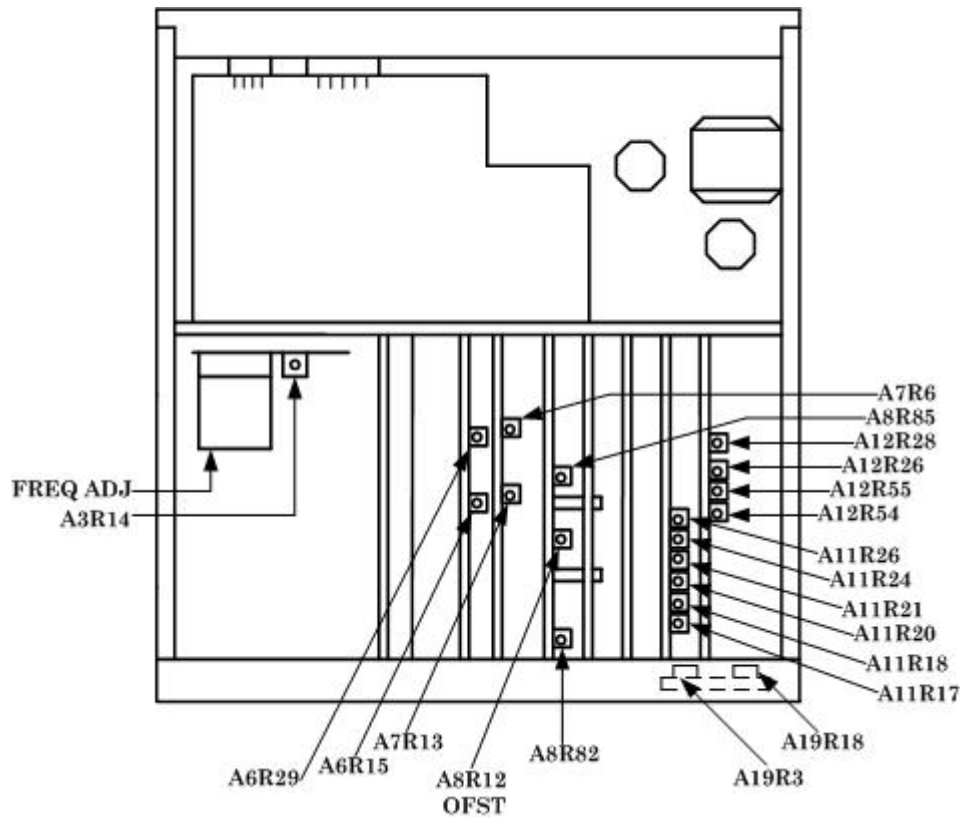

Figure 1. Test instrument - top view.
(1) Connect time/frequency workstation **OUTPUT 1 MHz** to frequency difference meter **REF INPUT**.
(2) Connect TI rear panel **FREQ STD OUTPUT (10MHz OUT** for AN/USM-459 and 5328AF096) to frequency difference meter **SIG INPUT** using a 50 Ω feedthrough termination.
(3) Adjust **FREQ ADJ** (fig. 1) (**FREQ ADJ** (fig. 1) and **A3R14** (fig. 1) for AN/USM-459 and 5328AF096) for minimum difference indication on frequency difference meter. Record frequency difference meter indication.
(4) After 24 hour stabilization, frequency difference meter indication will be <5 parts in 10¹⁰ of indication recorded in (3) above. Record frequency difference meter indication.
- (1) Connect signal generator **OUTPUT RF** to **TI INPUT A** using 50 Ω feedthrough termination (omit termination for option H60).
- (2) Set signal generator for a 40 MHz, 25 mV output.
- (3) Adjust A19R3 (fig. 1) (A12R26 (fig. 1) for option 041) for a stable TI indication of approximately 40 MHz (R).
- (4) Slowly decrease signal generator output and repeat (3) above.
- (5) Connect TI **CHANNEL A MARKER OUTPUT** to oscilloscope **Vertical 1** input using a 50 Ω feedthrough termination.
- (6) Set oscilloscope channel 1 for DC input coupling, 1 M Ω input, 500mV/div amplitude and 10 μ s/div sweep.
- (7) Set oscilloscope triggering for positive slope, auto level, channel 1 source and DC coupling.
- (8) Connect function generator **Function Outputs Unbalanced** to **TI INPUT A** using a 50 Ω feedthrough termination.
- (9) Set function generator for a sine wave, 10 kHz, 42 mVp-p, 50 Ω output.
- (10) Adjust oscilloscope controls as necessary to view waveform. Adjust A12R26 (fig. 1) for a symmetrical square wave on oscilloscope (R).
- (11) Adjust A12R55 (fig. 1) for a stable TI indication of approximately 10 kHz (R).
(3) Adjust A19R18 (fig. 1) (A12R28 (fig. 1) for option 041) for a stable TI 4.00000 indication (R).
(4) Slowly decrease signal generator output and repeat (3) above.
(5) Connect TI **CHANNEL B MARKER OUTPUT** to oscilloscope **Vertical 1** input using a 50 Ω feedthrough termination.
(6) Set oscilloscope channel 1 for DC input coupling, 1M Ω input, 500mV/div amplitude and 10 μ s/div sweep.
(7) Set oscilloscope triggering for positive slope, auto level, channel 1 source and DC coupling.
(8) Connect function generator **Function Outputs Unbalanced** to TI **INPUT B** using 50 Ω feedthrough termination.
(9) Set function generator for a sine wave, 10 kHz, 42 mVp-p, 50 Ω output.
(10) Adjust oscilloscope controls as necessary to view waveform. Adjust A12R28 (fig. 1) for a symmetrical square wave on oscilloscope (R).
(11) Adjust A12R54 (fig. 1) for a stable TI 0.00100 indication (R).
(1) Set signal generator for a 100 MHz, 15 mV output. Adjust A8R82 (fig. 1) until TI indication is stable at approximately 100 MHz. Slowly decrease signal generator amplitude while adjusting A8R82 (fig. 1) until maximum sensitivity is obtained (R).
(2) Set signal generator for a 500 MHz, 15 mV output. Adjust A8R85 (fig. 1) until TI indication is stable at approximately 500 MHz. Slowly decrease signal generator amplitude while adjusting A8R85 (fig. 1) until maximum sensitivity is obtained (R).
(3) Set signal generator for a 100 MHz, 15 mV output. Adjust A8R12OFST (fig. 1) until TI displays a stable indication at approximately 100 MHz. Slowly decrease signal generator amplitude while adjusting A8R12OFST (fig. 1) until maximum sensitivity is obtained (R).